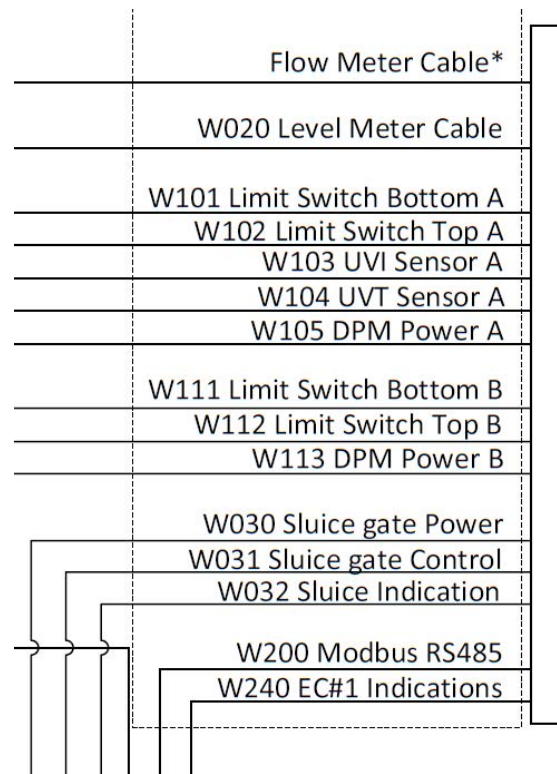

Figure 4-4: :Connections to Control Cabinet – Example only, refer to ICD supplied with your SPECIFIC delivered system
- You can connect signal wires for the following peripheral equipment to the Control Module, shown in block diagram form **Figure 4-4**.
- For the terminal block connectors for the Modbus in the **Control Module**, see Figure 4-4 , on page 33 above.